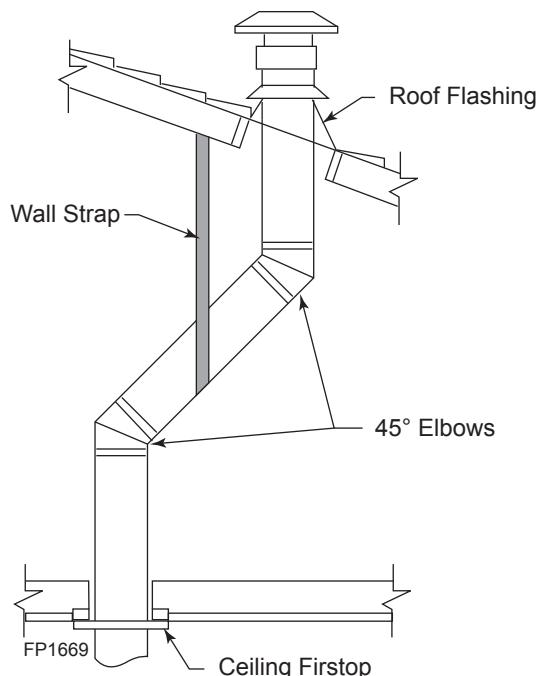

Figure 22 - Offset with Wall Strap and 45° Elbows
- Determine the route your vertical venting will take. If ceiling joist, roof rafters or other framing will obstruct the venting system, consider an offset. Refer to *Figure 22* to avoid cutting load bearing members.
NOTE: If an offset is needed to avoid obstructions, you must support the vent pipe every three (3) feet. Use wall straps for this purpose. *Figure 22.* Whenever possible, use 45° elbows instead of 90° elbows. The 45° elbow offers less restriction to the flow of the flue gases and intake air.